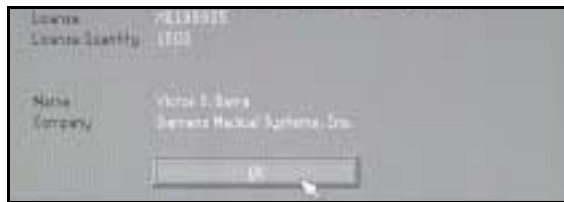

Figure 15-17 Norton Ghost menu
1. At X:\> prompt, type **ghost** and press <Enter> to bring up Norton Ghost menu (see Figure 15-17).